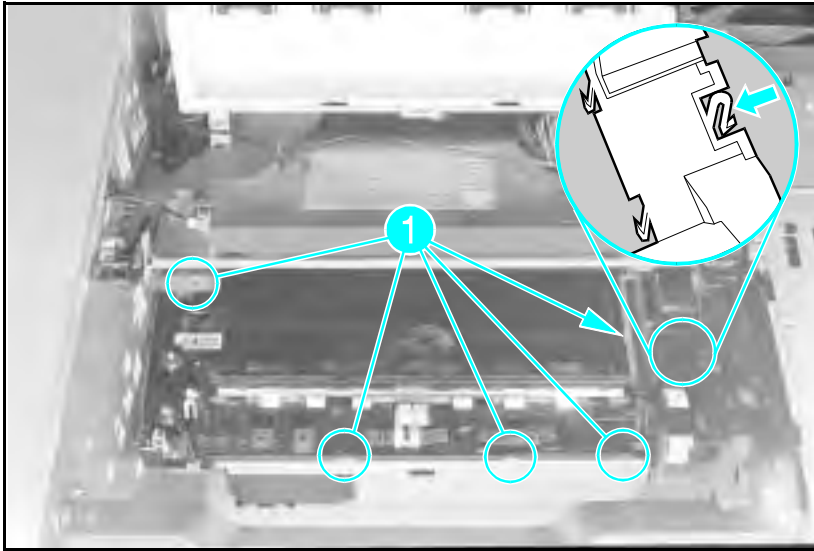

Figure 6-56 High Voltage Contact and Feed Guide Assembly Latches
- 2 Press the tab shown in Figure 6-56 to release the gear cover.
- 3 Release the (5) latches that hold the Contact Plate in place (see Figure 6-56). Set the Contact Plate on the latch slots.
- 7 Replace the gear cover (see Figure 6-56).